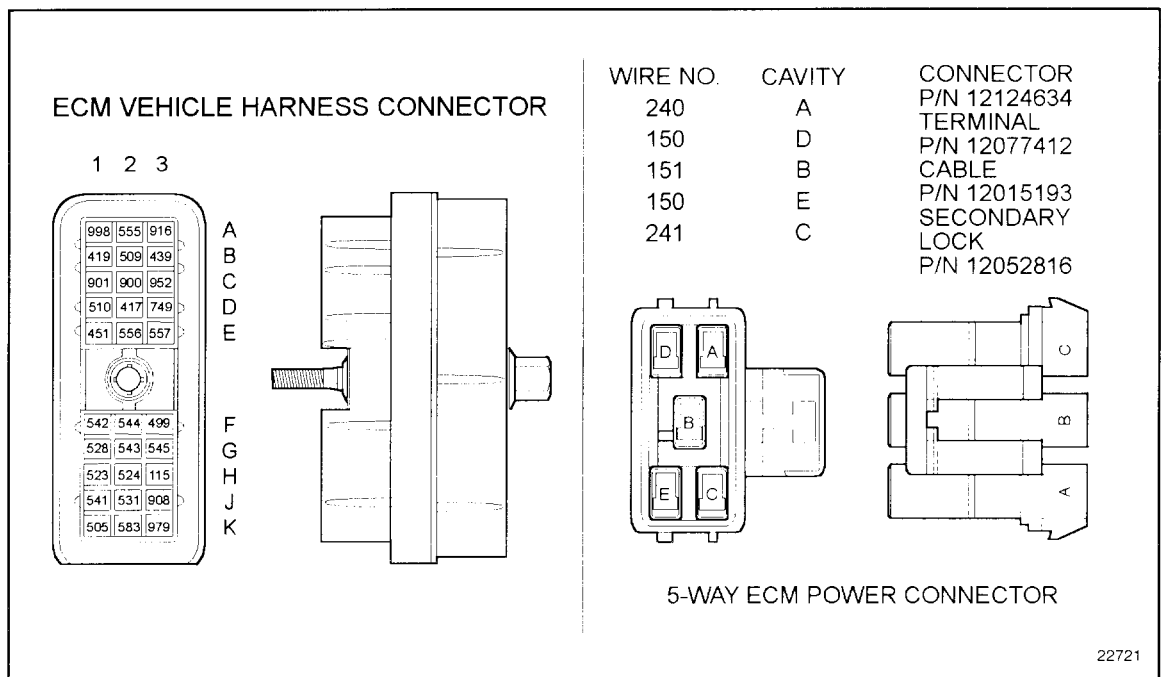

Figure 36-4 ECM Vehicle Harness Connector
2. Disconnect the vehicle harness and 5-way power connectors at the ECM. See Figure 36-4.